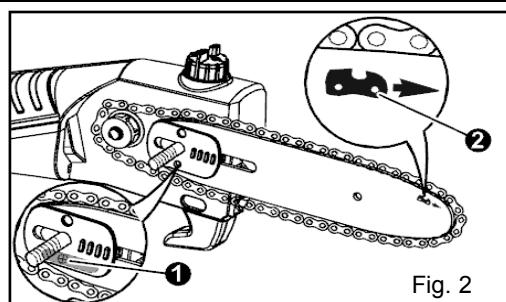

Fig. 2
**NOTE:** Check for correct seating of the guide screw on the rear side of the bar in the guiding groove (Fig. 2 ①).
**NOTE:** Ensure that the chain moves in the correct direction (Fig. 2 ②).